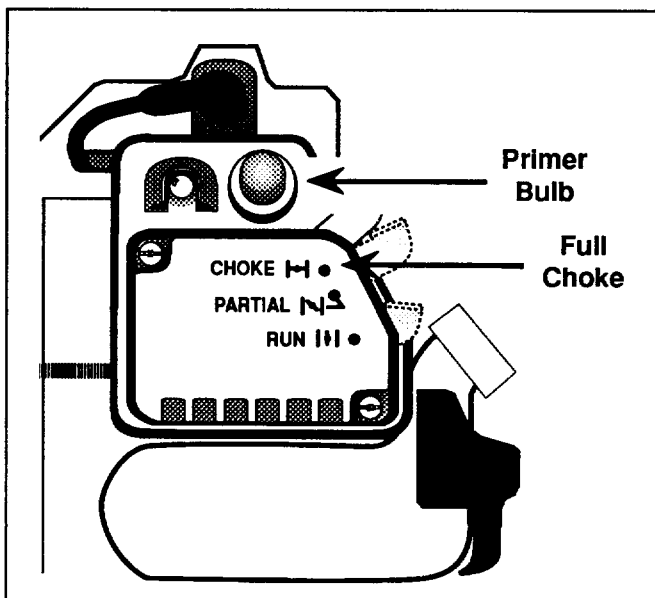
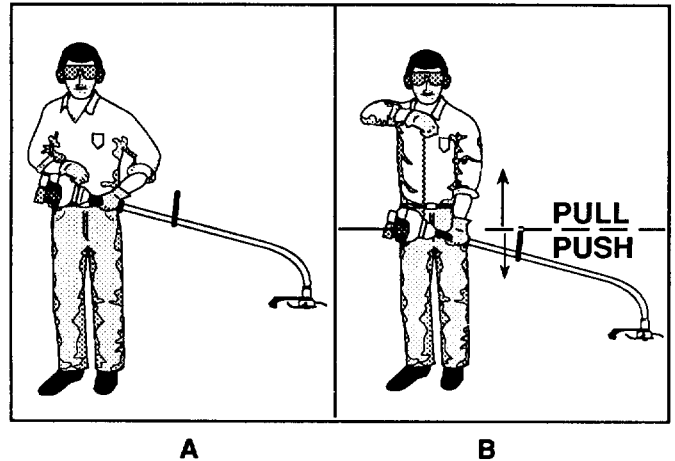

Fig. 8
Fig. 9
3. **FULLY PRESS AND RELEASE THE PRIMER BULB 5 TO 7 TIMES** (Fig. 8).
4. **MOVE THE CHOKE LEVER TO THE "FULL CHOKE" POSITION** (Fig. 8).
5. **HOLD THE UNIT IN THE STARTING POSITION WITH THE CUTTING HEAD AWAY FROM YOU** (Fig. 9-A).
7. **PULL THE STARTER ROPE BRISKLY** (Fig. 9-B) until the engine sounds like it wants to run (normally 2 to 5 pulls).
8. **MOVE THE CHOKE LEVER TO THE "PARTIAL" POSITION** (Fig. 8). Pull the starter rope briskly 1 to 3 times to start the engine (Fig. 9-B).
10. After the engine warms up for 5 to 10 seconds, **MOVE THE CHOKE LEVER TO THE "RUN" POSITION** (Fig. 8).